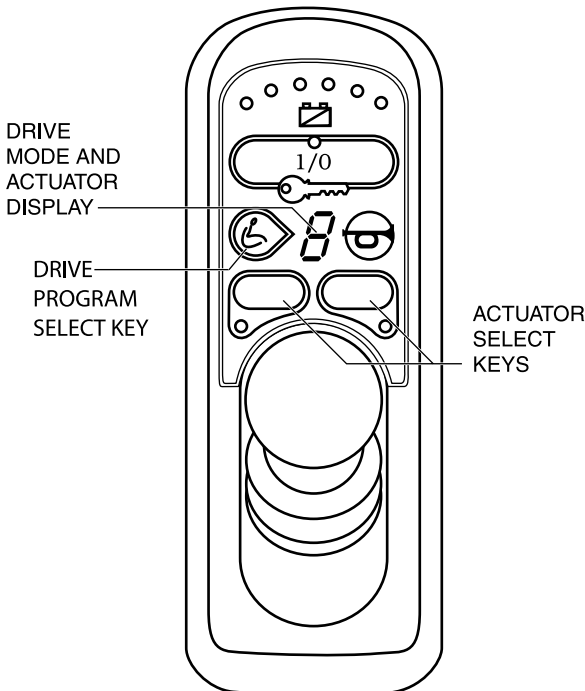

Figure 5. Europa Controller
2. Press an actuator select key until an “A” appears in the drive mode and actuator display. See figure 5.